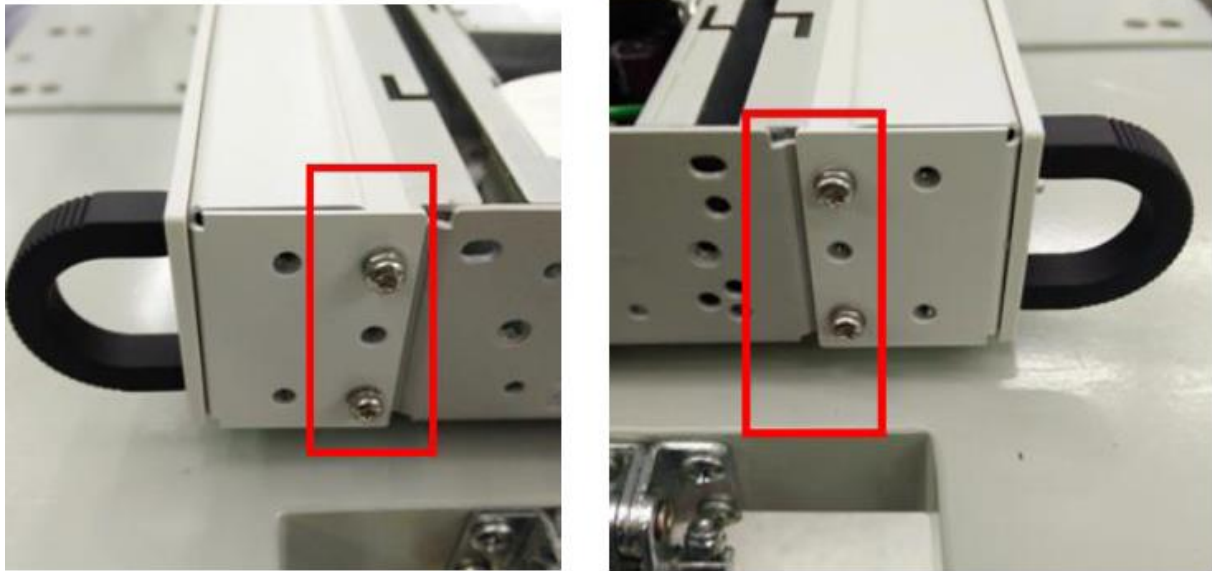

Figure 3
3. Remove 4 screws from both side of front panel as shown in Figure 3.